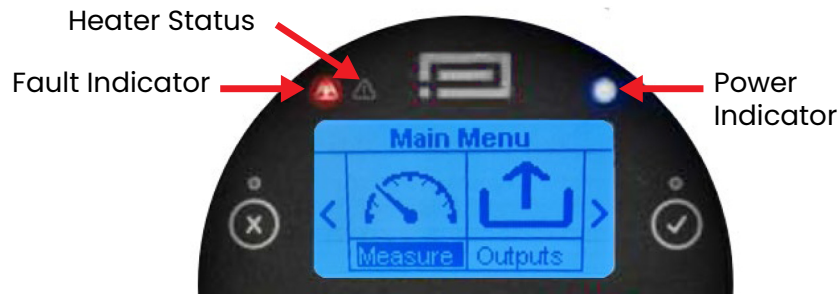

Figure 12: Indicator Lights
4. **Error Code:** Indicates an active error by displaying the corresponding error code. Refer to *Chapter C, "Error Codes"* for the list of error codes. When an error is indicated, the fault indicator light (see *Figure 12*) blinks to alert the user.